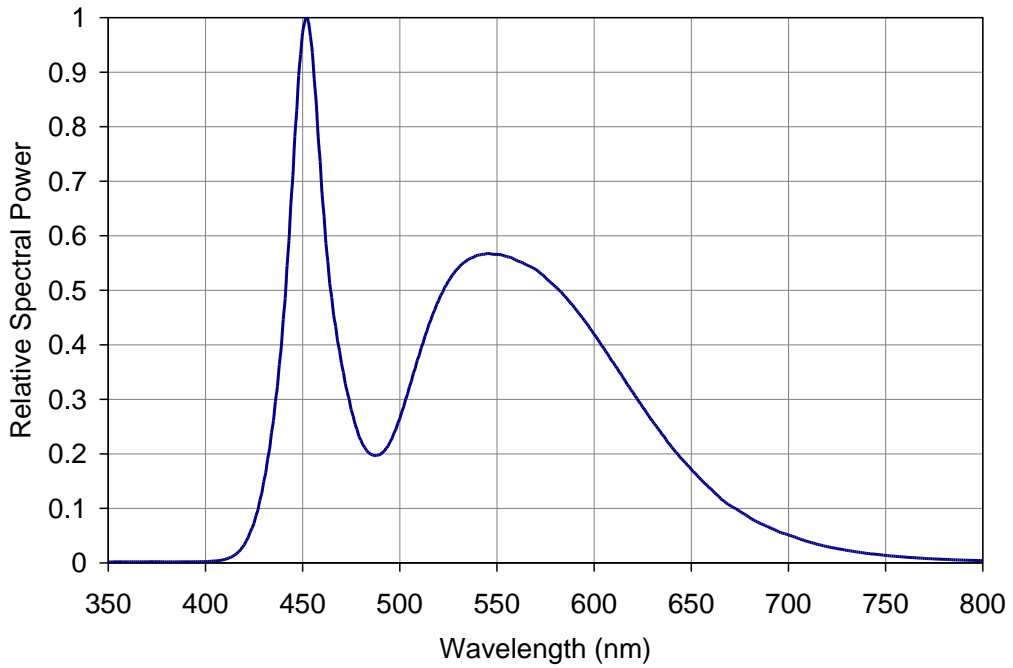

Figure 5: Relative spectral power vs. wavelength @ Tc = 25°C
- Solder conditions per JEDEC 020D. See Reflow Soldering Profile Figure 5.